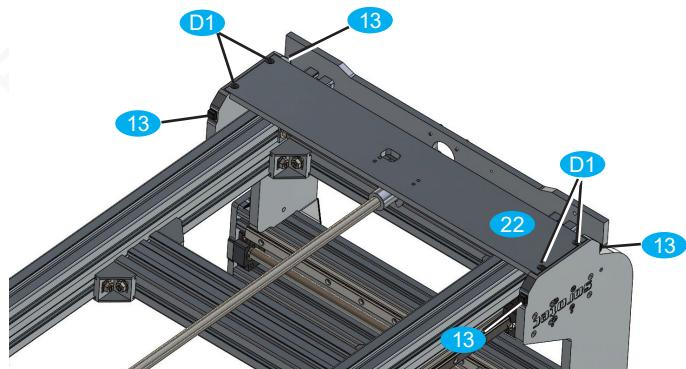

Fig. 20: Installation of girder portal beam
- Insert the portal beam 22 as shown in Figure 20 in the recesses in the portal cheeks and mount with cylinder screws D1; Tighten screws slightly